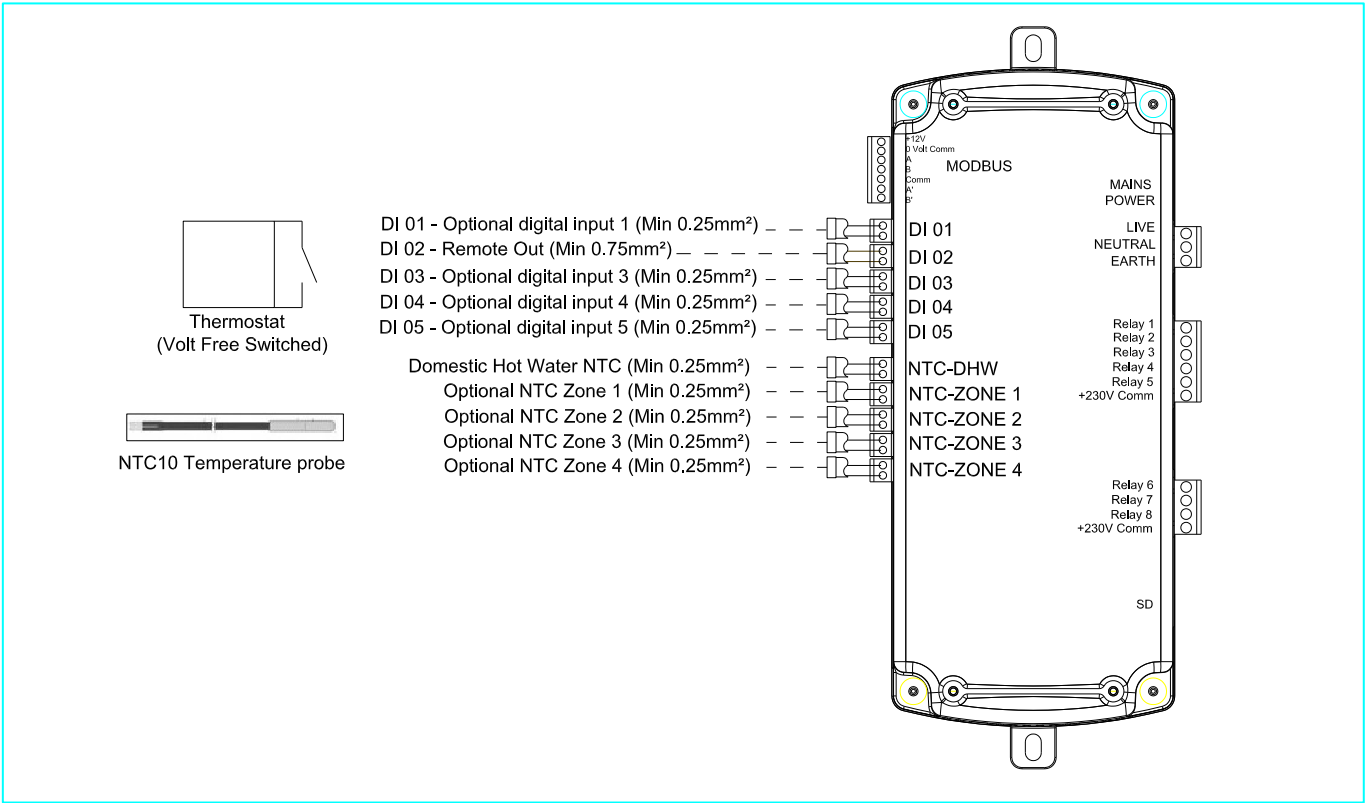

Figure 11: Digital Inputs & Temperature Sensors
- Temperature sensors and digital inputs can be connected to the PCB, 5.9.4 (DI 01-05), (NTC-DHW and NTC-Zone 1-4). See Figure 11.